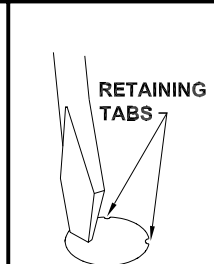

Fig. 4
3. **Remove the 7/8" Dia. center knockout** and two 11/16" Dia. knockouts near the ends of the fixture housing by placing a straight blade screwdriver on the edge of knockout and striking it with a hammer (**wear safety glasses when hammering**). Remove slugs by flexing back and forth with pliers. **See Fig. 4.**
4. **Determine fixture orientation** and position Fixture Housing (2) with the 7/8" Dia. hole centered over junction box and mark the ceiling at the center of the 11/16" mounting holes.